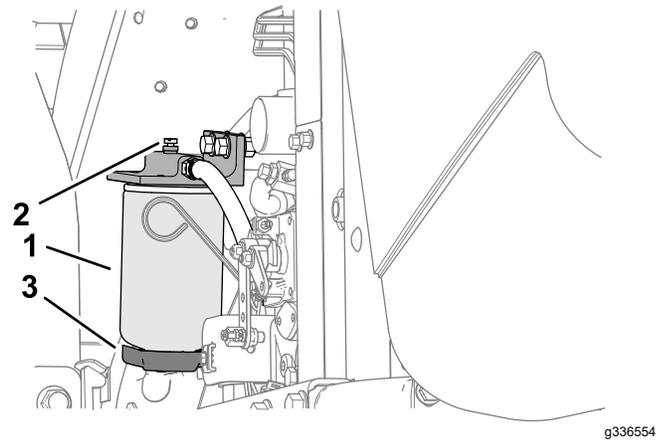

Figure 68
4. Loosen the drain valve on the bottom of the filter canister (Figure 68).
3. Clean the area where the filter canister mounts (Figure 68).